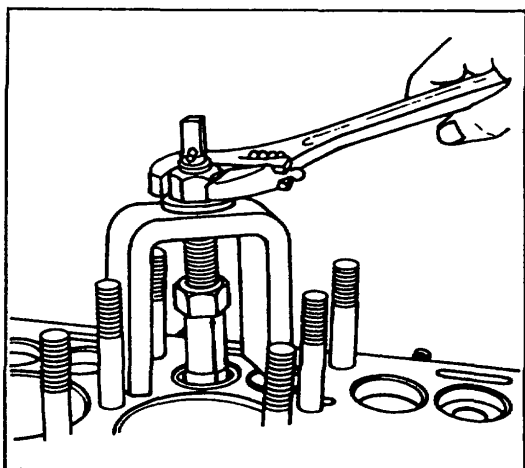

Figure 6-5. Removing Valve Seat Insert With Puller
1. Use suitable valve seat puller to remove any loose or defective valve seat, (see figure 6-5). Replacement seats are available in 0.010 inch oversize.